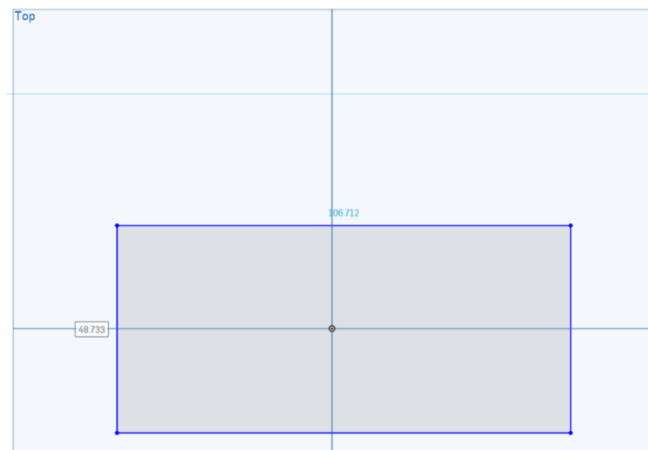

Figure 2.8: Sketch a rectangle on the “Front” plane.
- 6) Using the “Corner Rectangle” tool () sketch a rectangular shape as shown in figure 2.8 below.